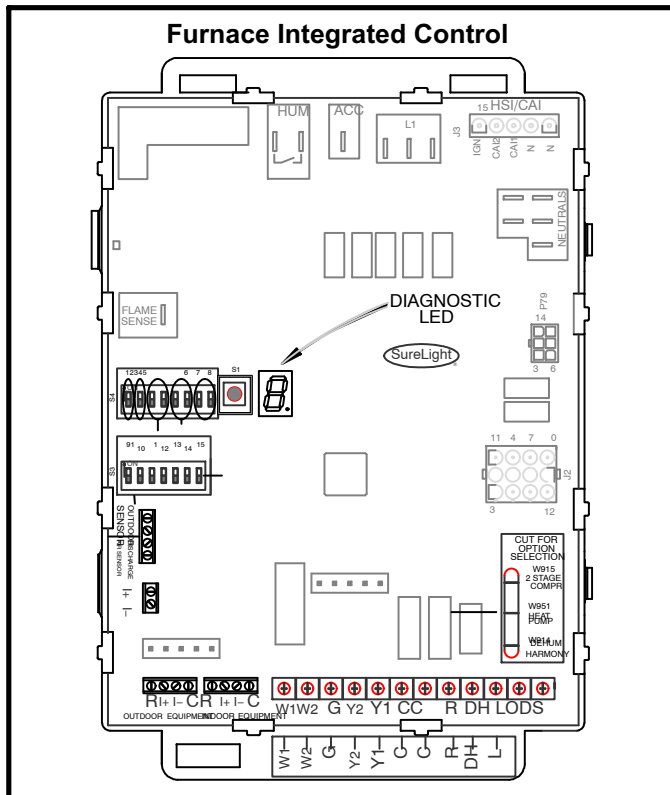

FIGURE 2
**NOTE** - When the furnace begins heating mode, the diagnostic LED on the furnace control will display “H1” for heating operation in 1st stage, or “H2” for heating operation in 2nd stage. The LED can be seen through the viewport on the lower access panel. See figure 2.